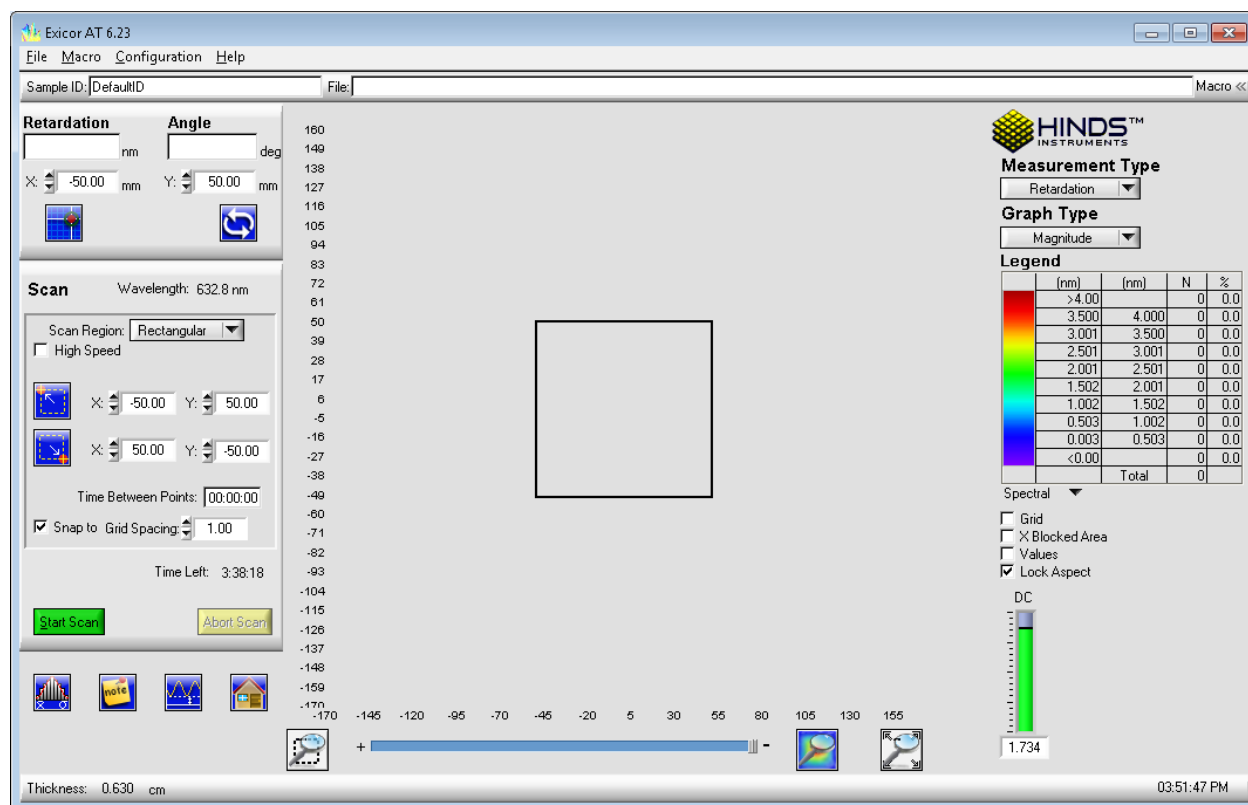

Figure 3.4 Setting up a 100 X 100 mm scan
- Rectangular areas are defined by an upper left corner and a lower right corner. Click on the upper left point of the desired scan in the plot area of the software, drag down to the lower right point of the desired scan area, and release the mouse. See Figure 3.4 for an example of scanning a 100 x 100 mm scan area. Alternatively, enter the coordinates of the upper left and lower right coordinates of the scan area in the fields provided.